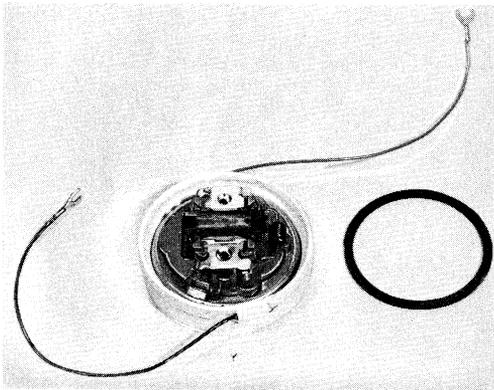

Fig. 12—Receiver Unit Installed in Coil Assembly
- (5) Place the receiver unit in the coil assembly (Fig. 12).